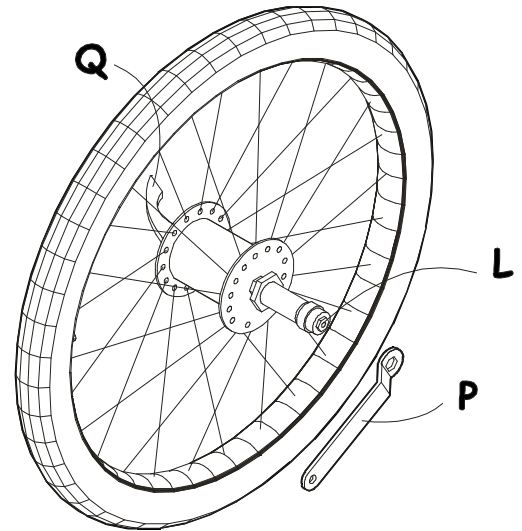

FIG. 5
- Now it is necessary to adjust the new axle so that it clamps down correctly. Simply hold the small nyloc nut **L** with a 8mm ring **P** or a pair of needle nose pliers and turn the cam lever **Q** on the opposite end of the skewer **D** until the swedge cap **K** and the shank **I** begin to spread the split ring **J** (These parts are shown in FIG. 3). Be sure to have the cam lever **Q** in the closed position while turning it. (This will be the position it is shown in FIG. 5).